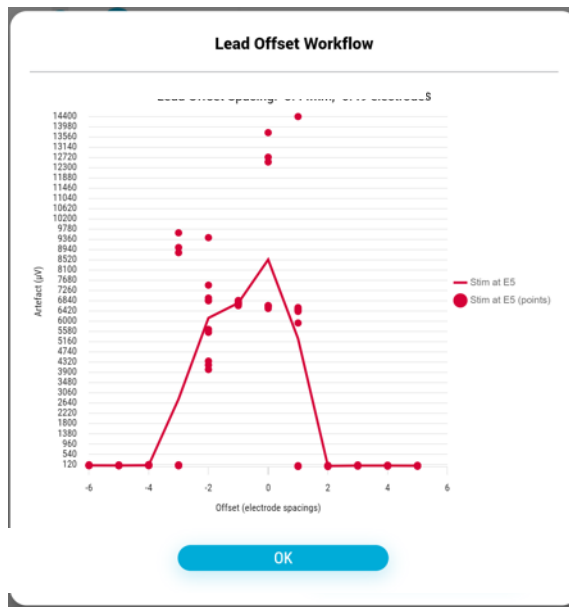

Figure 6.22 Artefact plot. The peak of the plot indicates the lead offset (electrode spacings).
4. After completion, the results of all peak artefact measurements will be plotted (Figure 6.22).